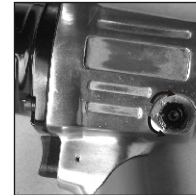

Figure 12
**Note:** This tool features a power regulator valve. Rotate the F/R valve knob (Part #12) until desired output is achieved. The settings 1, 2, 3 are only for reference and do not denote a specific power output. "Setting 1" is the least amount of power while "Setting 3" is the most amount of power. Rotate the F/R valve knob either clockwise or counterclockwise having the triangle mark or hollow line on the knob pointing at any setting to get the desired power. (See Figure 12 & 13)